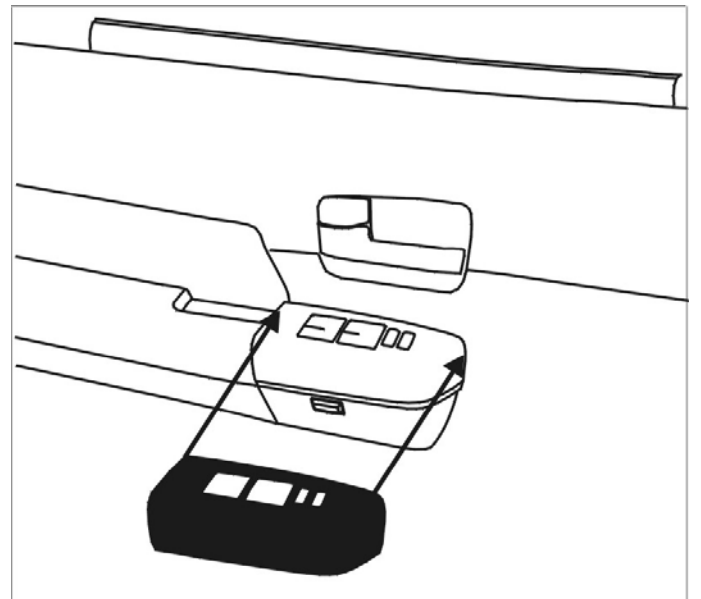

Fig. 5-1
- (1) Gently touch part into position.
- (2) Align part uniformly to the edges of the factory door component aligning all switch openings. (Fig. 5-1)